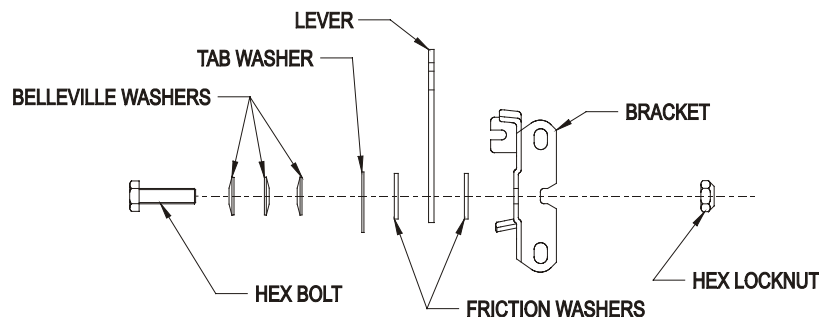

FIGURE 10
- b) Tension in throttle lever can be adjusted by adjusting the tightness of the lever pivot bolt, which is located under the console. See Figure 10.